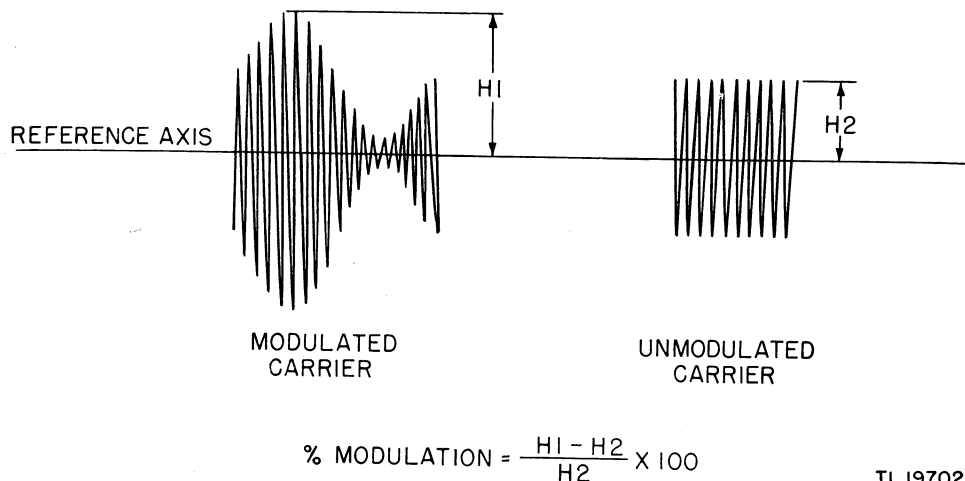

Figure 27. Radio Transmitter BC-610-(\*), oscilloscope pattern for modulation test.
c. MODULATION CAPABILITY. (1) Keep the transmitter adjusted for maximum unmodulated phone power output at the same frequency that was used in the previous tests.
(2) Insert the audio signal generator plug into Jack J102 on Speech Amplifier BC-614- ( ).
(3) Turn on the oscilloscope.
(4) Adjust the sweep voltage on the oscilloscope to make the width of the pattern slightly more than half the diameter of the screen.
(5) The unmodulated r-f carrier wave will be seen on the oscilloscope.
(6) The height of the carrier pattern should be approximately one third of the height of the screen.
(7) Since the height of the carrier pattern depends upon the number of turns in the pick-up coil, it may be increased by increasing the number of turns and decreased by decreasing the number of turns of the coil.
(8) Measure the height of the unmodulated r-f wave (fig. 27, H2) above the reference axis.
(9) Adjust the audio signal generator for a frequency of 400 cycles, and turn it on.
(10) Measure the audio input voltage from the audio signal generator to Speech Amplifier BC-614- ( ), using a high resistance a-c voltmeter or an a-c vacuum-tube voltmeter (VTVM).
(11) Adjust the audio signal generator for an initial output of 0.15 volt.
(12) The transmitter output will now be modulated at 400 cycles.
(13) 90 percent modulation is required for satisfactory operation of the transmitter.
(14) At 90 percent modulation, the r-f current in the external test ammeter will increase approximately 18 percent above the unmodulated value which was obtained in the proceeding test; it should at least equal the r-f output current specified in table X for modulated phone power output.
(15) If the value specified in table X is not obtained with 0.15-volt output from the audio signal generator, increase the output of the audio signal generator up to 0.30 volt, and set the speech amplifier control near maximum in order to obtain the specified value.
(16) Observe the modulated wave on the oscilloscope screen to make certain that the sine wave pattern remains undistorted.
(17) The maximum height of the modulated wave (fig. 27, H1) as seen on the oscilloscope should be 1.9 times as great as the height of the unmodulated wave. (See fig. 27, H2.) This indicates a modulation of 90 percent.
(18) If the modulated phone power output reading equals that specified in table X, and if, with an audio signal generator output of 0.30 volt, the wave height H1 is 1.9 times as high as wave height H2 without distortion, then the performance of the transmitter is satisfactory.